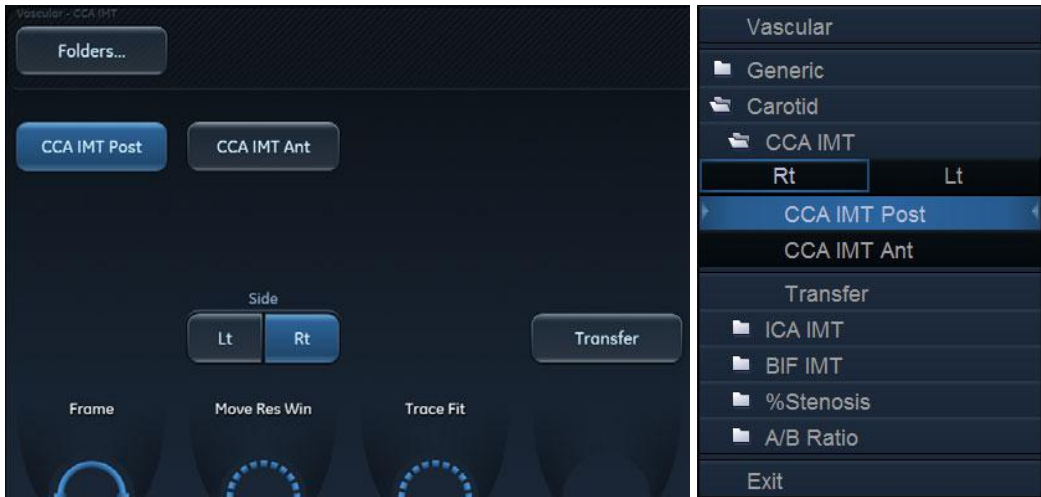

Figure 8-68. IMT Measurement menu (Right Common Carotid Posterior IMT measurement tool)
5. Select the appropriate IMT measurement. If measuring the IMT of the posterior wall of the right common carotid select **Rt** and **CCA IMT Post** (Figure 8-68).